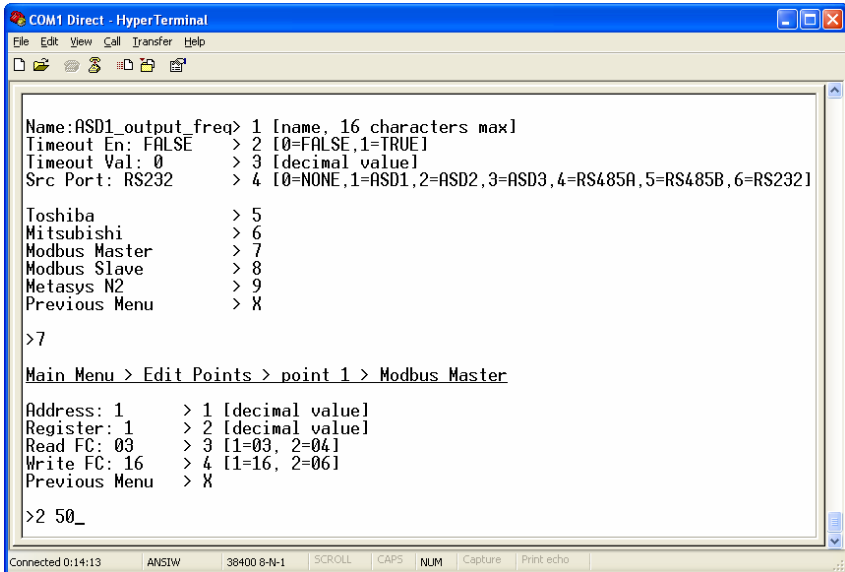

Figure 16: Edit Modbus Master Attributes
- **Edit Register:** Menu selection 2 allows you to edit the Modbus holding register or input register that this point will access. The type of register accessed (holding or input) will be determined on the basis of the “Read FC” setting (see below). Figure 16 shows an example of how to change the current setting of holding register 1 to holding register 50.